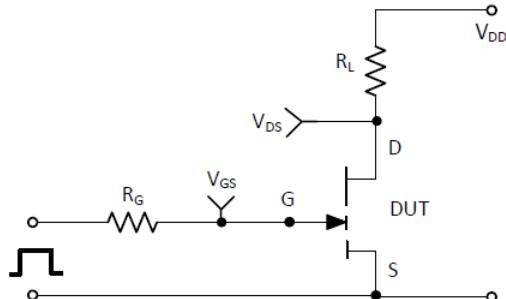
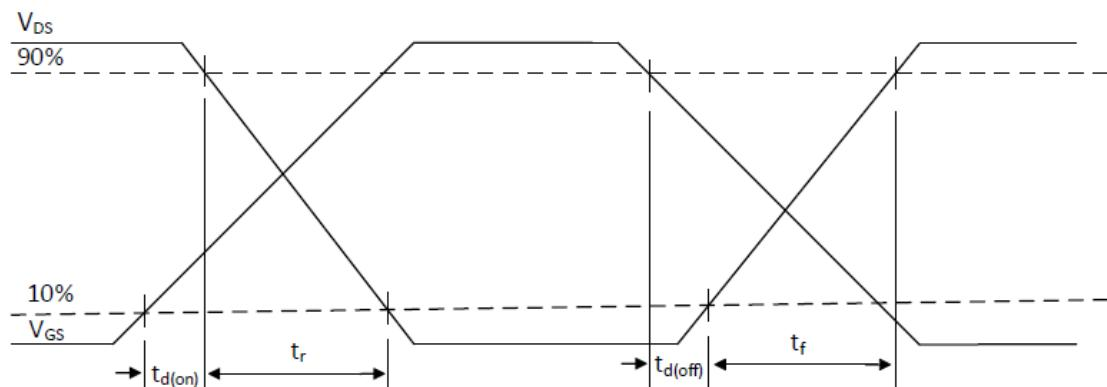

Figure 16: switching time test circuit
Figure 17: switching time waveforms
(5) See Figure 16 for timing test circuit diagram and definition waveforms
(6) L_P = parasitic inductance
(7) See Figure 17 for switching loss test circuit